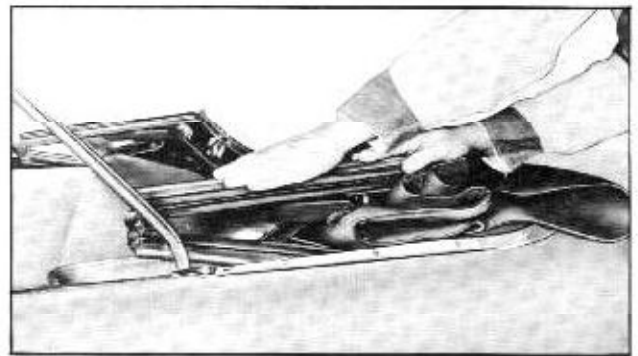

Fig. 15-68 Engaging Catch Clip
7. Press down on side rail front section until catch clip snaps onto side rail center section. Repeat operation on opposite side of car. (Fig. 15-68)